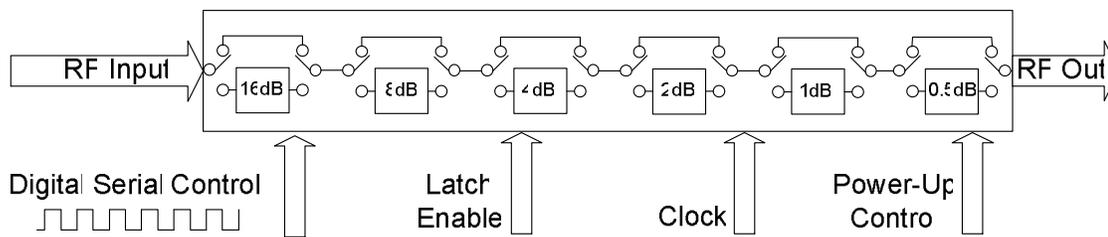

Fig. 10: Functional schematic of a 6 bit attenuator with serial control.
Figure 10 shows a 6 bit model with 0.5 dB step and serial control. Here attenuation is controlled by three CMOS-compatible signals: Data, Clock, and Latch Enable (LE). The Data and Clock inputs allow data to be serially entered into a built in shift register. The LE input controls the latch.